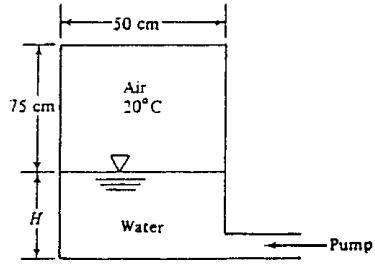

Fig. P2.47
**2.47** The cylindrical tank in Fig. P2.47 is being filled with 20°C water by a pump developing an exit pressure of 175 kPa. At the instant shown, the air pressure is 110 kPa and H = 35 cm. The pump stops when it can no longer raise the water pressure. Estimate "H" at that time.